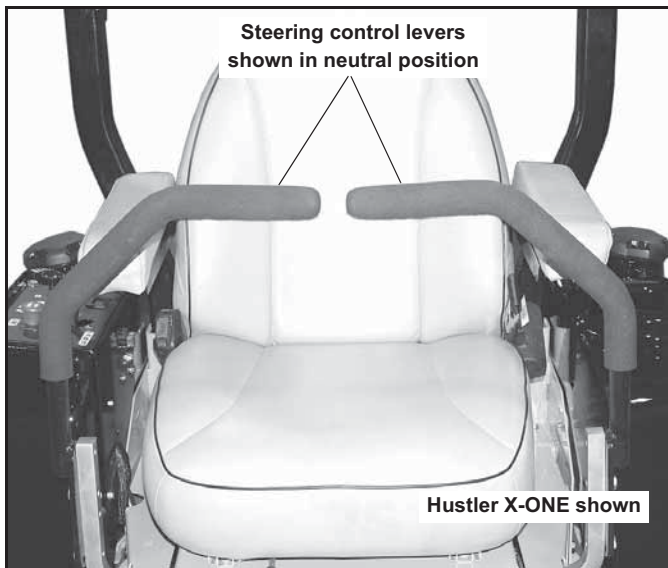
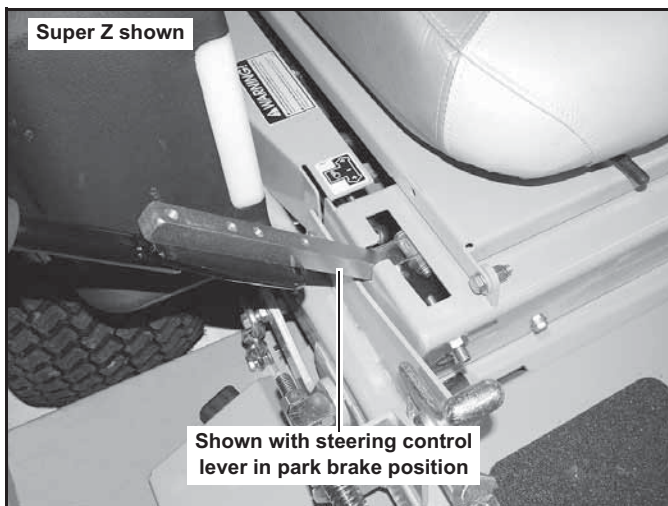

Figure 3-3
Figure 3-4
- A. Steering control levers (Figure 3-3 & Figure 3-4)** — these levers control the mower’s speed, direction, stopping, and park brake. These levers are used to steer, accelerate, decelerate and change direction. When the steering control levers are in the park brake position the mower will not move when the engine is on and drive pumps are operating.